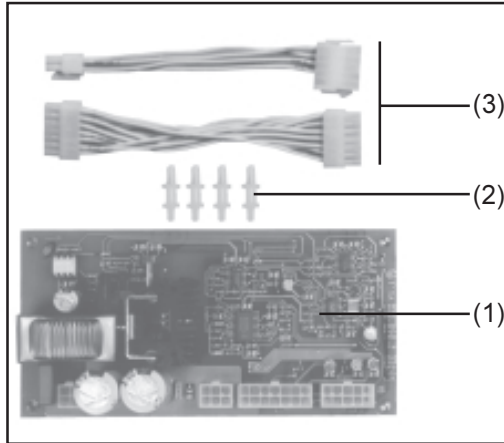
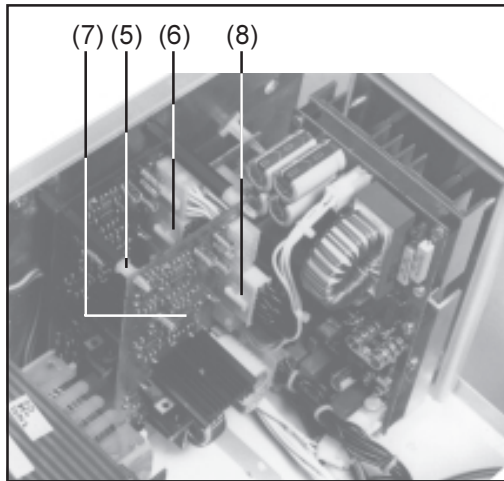

Fig.3 Conversion kit
Fig.4 Installation location of pc board PZ45 RO
- Screw snap-in spacers - Fig.3/Item (2) - onto spacers M4x40 - Fig.4/Item (5).
- Plug cables - Fig.3/Item (3) - into the 14-pin jack on pc board PV45S (A25x4) - Fig.4/Item (6).
- Fit pc board PZ45 RO - Fig.3/Item (1) - parallel to pc board PV45 S - Fig.4/Item (7)
- Plug the 14-pin connector into pc board PZ45 RO (A26X4) - Fig.4/Item (8)